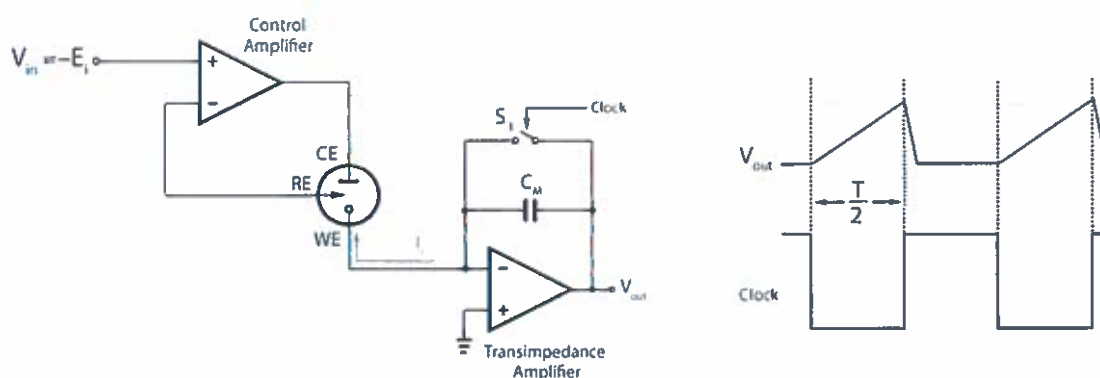

Figure 3.1
b) The potentiostat system shown in Figure 3.1 is used to drive a three-electrode amperometric glucose sensor to form part of a Glucometer for treatment of diabetes.
ii) The system shown in Figure 3.1 operates off a dual supply with $V_{DD}=5\text{V}$ and $V_{SS}=-5\text{V}$. The transimpedance amplifier is clocked at a frequency $f=10\text{KHz}$. Calculate a value for the capacitor C_M which ensures the maximum utilization of dynamic range at 20mM of glucose. [3]